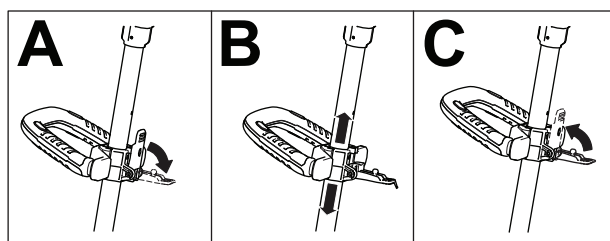

Figure 14
1. Release the auxiliary-handle latch (A of Figure 14).
2. Slide the auxiliary handle up or down to your desired height (B of Figure 14).
3. Close the auxiliary-handle latch to secure the auxiliary handle in place (C of Figure 14).